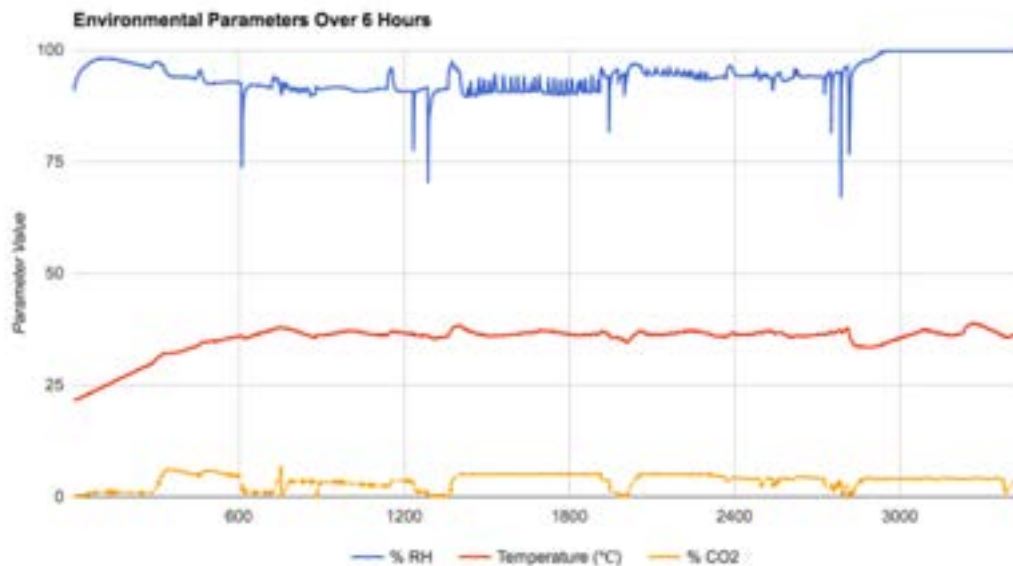

Figure 1: 2017 team environmental testing results
- While the MHZ-16 was specified to measure with a 200 ppm accuracy and the data in Figure 1 (below) shows relatively steady state CO2 measurement of 50,000 ppm (5%), during cell culture media was observed to yellow.